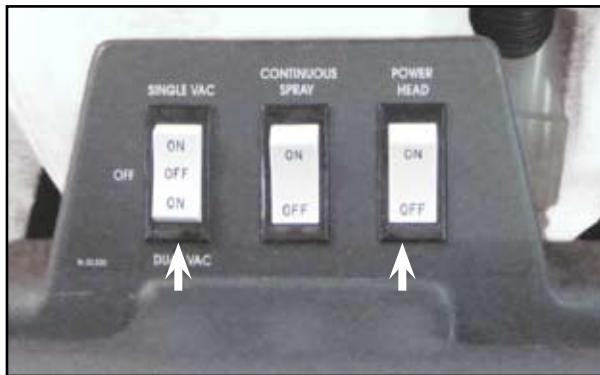

Figure 7. Activate Vacuum Switch and then Power Head Switch
2. Position the "Power Head" switch to ON. The "Power Head" switch causes the rotary head to turn (see Figure 7).